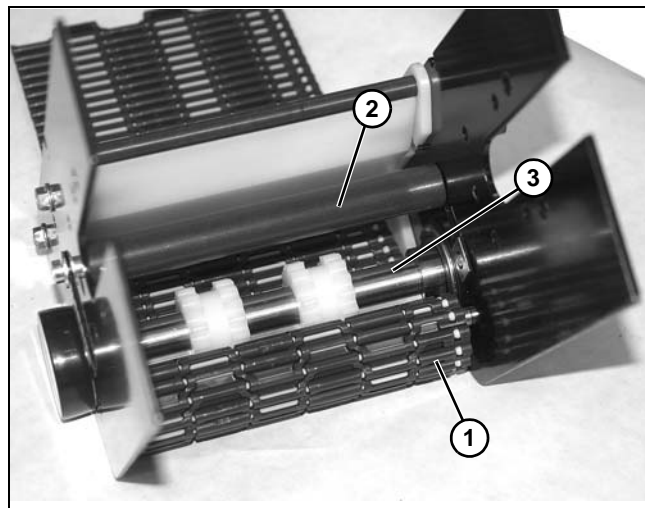

Figure 125
16. Continue to remove belt (**Figure 125, item 1**) from under tensioning rod (**Figure 125, item 2**) and from around drive shaft (**Figure 125, item 3**).